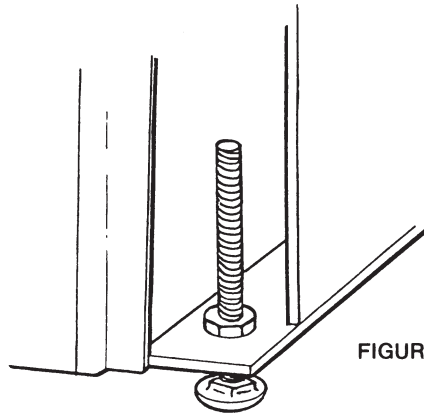

FIGURE 3
3. Carefully lay the Hearthmount on its back and thread the 2" levelling bolts tightly into the base. Measure the drop between the fireplace floor and the hearth. If the floor and hearth are level, no levelling is required. If a drop does exist adjust the rear levelling bolts to compensate for this drop. This procedure insures that the Hearthmount is installed in a level position. (See figure 3)
5. Mark the center line on the adapter as shown on figure 5 and transfer the information from figure 3 to the adapter plate.